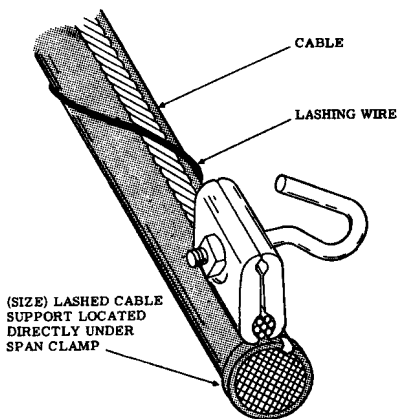

FIGURE 1. Lashed Cable
2.04 Figures 1 and 2 illustrate the universal span clamp installed on lashed or figure eight cable.